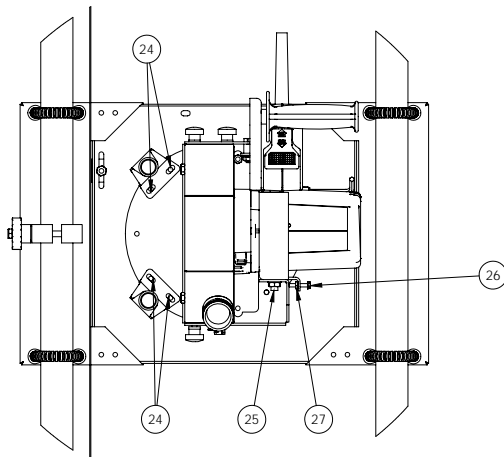

Figure 37: Adjusting Blade Perpendicularity
- a. Loosen (but do not remove) the four hex-head nuts holding the indexing pin assembly (Fig. 37, #24).
1. If the tool does not cut at 90° to the surface (face) of the work piece, loosen the two motor mount nuts (Fig. 37, #25).